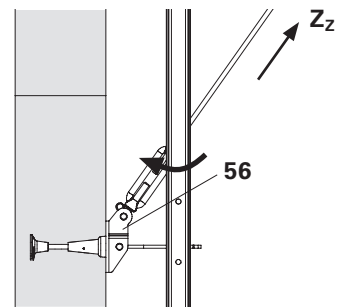

Fig. B1.34d
6. Insert Eyelet Bolt  $\varnothing 25$  (60.1) into the Bracing Shoe Wall CB M24 (56) and secure with designated bolt and cotter pin. (Fig. B1.34d)